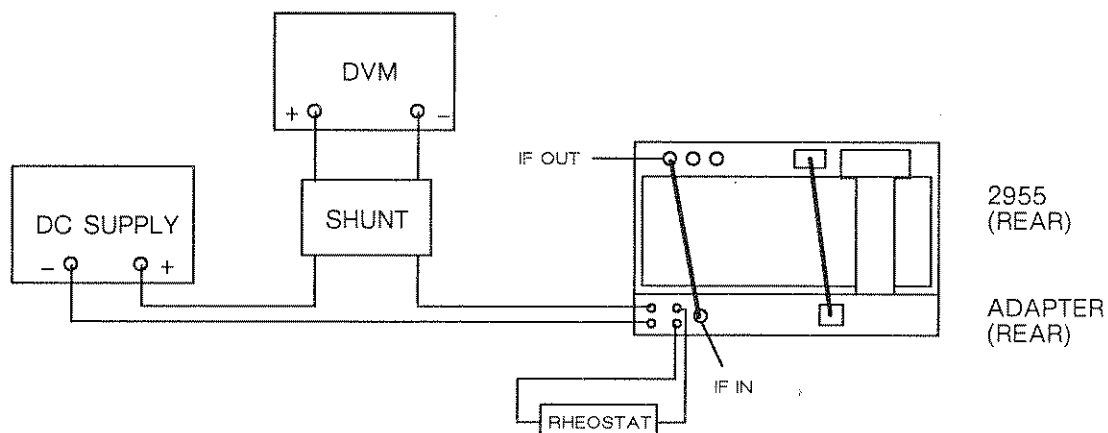

Fig. 5-10 Test equipment connections for DC meter test
- (2) Switch on the equipment and press the CRTS key.
- (3) When the instrument has completed its self-test, select MANUAL TEST.
- (4) Adjust the rheostat to give a load resistance of 10 Ω .
- (5) Set the DVM to read DC volts and then adjust the DC power supply to give a 10.00 V reading on the DVM.
- (6) Check that the voltage displayed on the screen is within $\pm 5\%$ ± 100 mV of the voltage indicated on the DVM.
- (7) Check that the power reading displayed on the screen is equal to the current reading multiplied by the voltage reading.
- (8) Repeat for voltages between 1 V and 25 V.
- (9) Switch off the DC supply, disconnect the DVM and connect the current shunt across its inputs. Then reconnect the DVM in series with the positive supply as shown in Fig. 5-10.